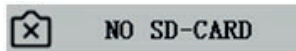

Figure 6-1
■ When pressing the snap button, recording videos, taking photos at a fixed time, or entering the SD card management menu, “NO SD-CARD” will be displayed, as shown in Figure 6-1. Please insert the SD card with the FAT32 file system into the SD card slot on the right side of the device, and then carry out the corresponding operations.